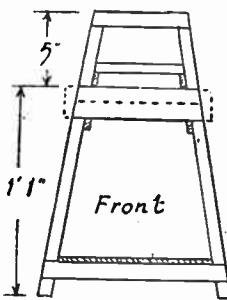

Fig. 1—Front and side view
round, and hold the rear middle bars together with a hook fastener, going under a screw head, as in detail sketch (B). A footboard of  $\frac{1}{2}$  in. by 2in. wood can be nailed across the legs at the front, at any convenient distance down from the top, somewhere about where shown in Fig. 1. A good glasspapering all over will be necessary now to remove roughness.